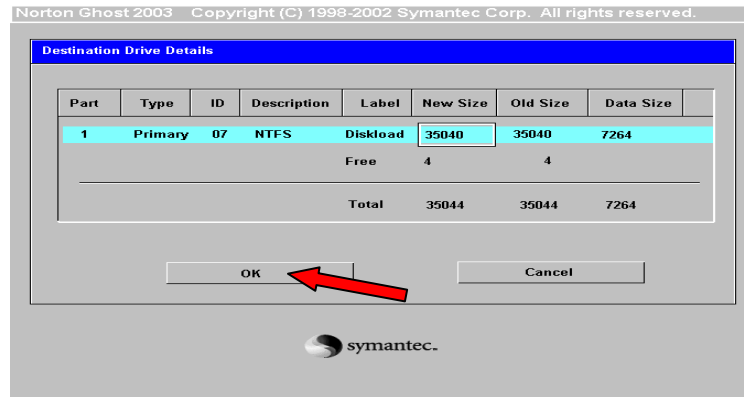

Figure 1-182. Destination Drive Details
Figure 1-182 is an example. The Drive Details may vary, depending on the destination hard drive.
14. The “Destination Drive Details” window is displayed (Figure 1-182). Click on **OK**.